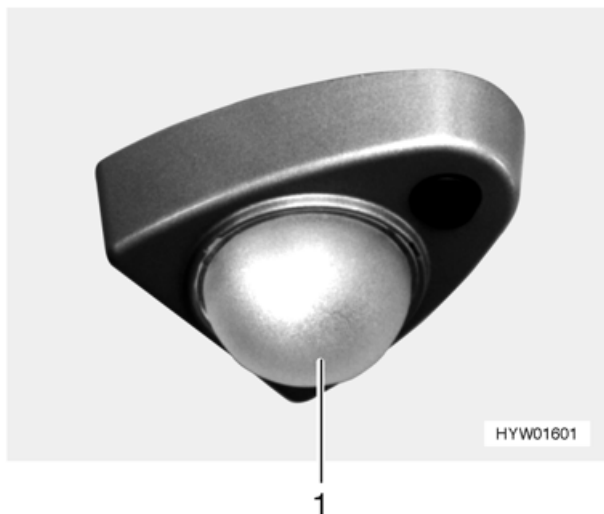

Fig. 93 Spotlight (variant 1)
- Turn the the glass (Fig. 93,1) in a clockwise direction.